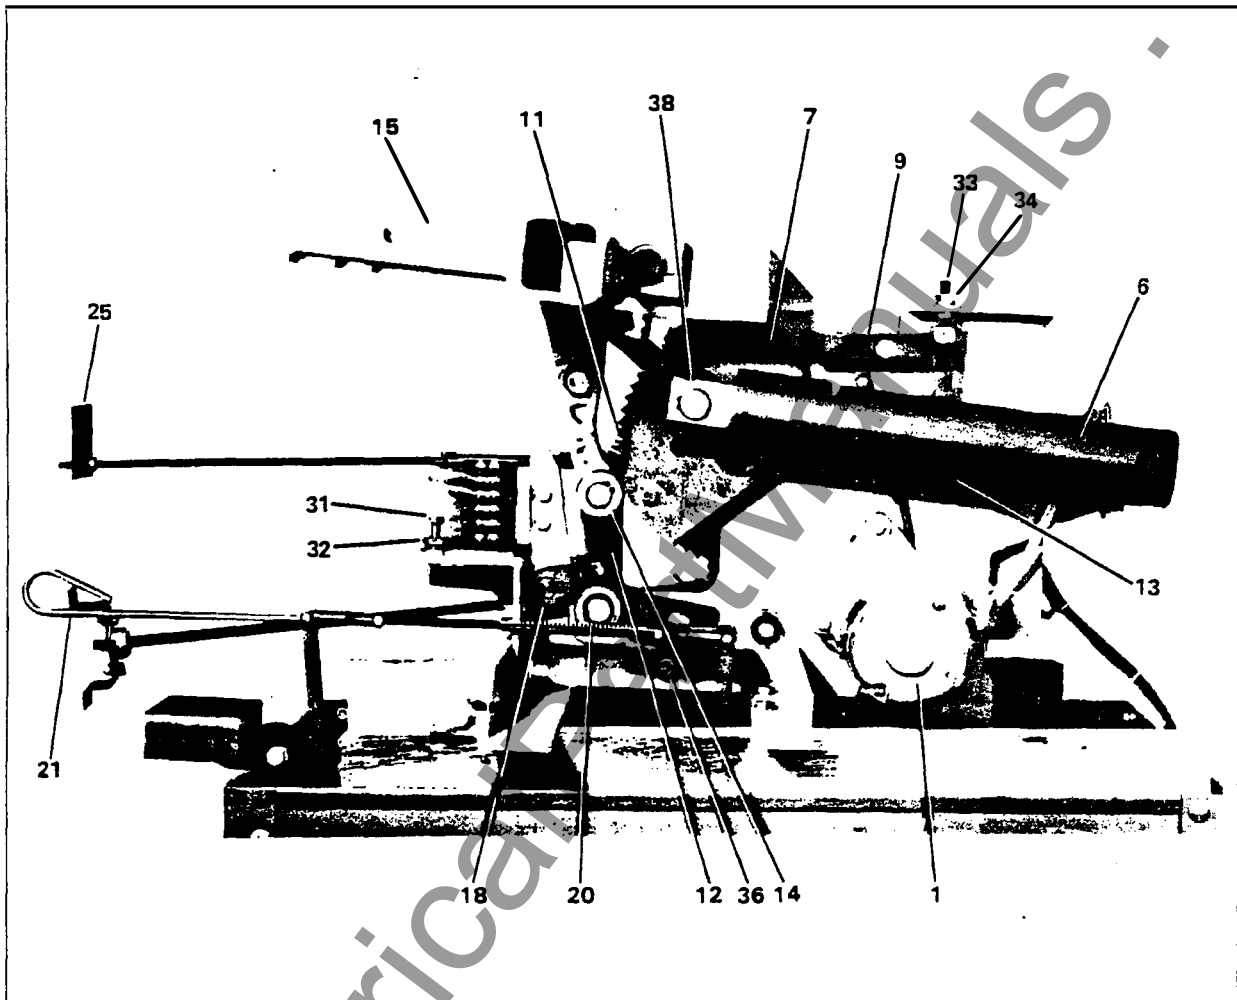

Figure 7. 515-3 Operator R.H. View
The breaker is closed by the stored energy operator straightening a toggle in the four-bar linkage (Figure 7, Item 12). The operator is powered by precharged springs (stored energy).
**Closing Breaker** — When the springs of a stored energy operated breaker are fully charged, it can be closed by pulling the manual close pull rod (21, Figure 7), or electrically by energizing the closing circuit. This rotates the latch that allows the springs to close the breaker.
Energization of the Breaker Control Circuit will cause the spring charging motor (1, Figure 7) to start charging the closing springs (6, Figure 3). The spring charging motor (1) will drive the driving pawl (2, Figure 3) through an eccentric drive shaft (3, Figure 3). The driving pawl (2) will turn the ratchet wheel (4, Figure 3) counterclockwise one tooth at a time. The holding pawl (5, Figure 3) will hold the ratchet in position between driving strokes of driving pawl (2). This charging operation will continue turning the ratchet wheel (4) counterclockwise a tooth at a time until the closing springs (6) are fully charged (dead center). The motor will drive the ratchet wheel past this dead center position and the closing springs (6) will aid rotation driving the ratchet wheel and cams counterclockwise until spring release rollers (8, Figure 8) on the inside surfaces of cams (7, Figure 7) engage the close latch (9, Figure 7). This arrests the motion of the ratchet wheel (4) and the cams (7) and holds the operator in a fully charged position. As the cams and ratchet wheel go over center, the motor cutoff switch (10, Figure 3) is actuated to de-energize the spring charging motor (1). The spring charging motor then coasts to a stop, driving pawl (2) oscillating freely in the smooth toothless section of the ratchet wheel.
As energy is stored in the closing springs, the four bar linkage (12, Figure 7) will be positioned by the linkage reset spring (11, Figure 7) which acts to cause cam follower rollers (14, Figure 7) to follow the surface of cam (7, Figure 7) until the links are in a reset position, and allow-
ing latch rollers (20, Figure 7) to be positioned in front of trip latch (18, Figure 7).
Energizing the spring release solenoid (13, Figure 7) will drive the close latch (9, Figure 7) away from the spring release rollers (8, Figure 8) on the cams (7, Figure 7) releasing the stored energy in the closing springs (6, Figure 7). The closing springs (6) will drive the ratchet wheel (4, Figure 3) and the cams (7, Figure 7) counter-clockwise at a high rate of speed. The cams (7) will engage the cam follower rollers (14, Figure 7) of the four bar linkage (12, Figure 7) and drive them forward causing the four bar linkage to become straight. As the four bar linkage (12)
becomes straight, it drives the radius arm (15, Figure 7) upward causing the breaker contacts to close and the opening springs to be charged. The cams (7) drive the four bar linkage (12) over toggle and against the frame thereby latching the breaker contacts in the closed position.
When the closing cycle has been initiated and the cams (7, Figure 7) begin to turn, the motor cutoff switch (10, Figure 3) resets itself. A "b" auxiliary switch of the breaker opens de-energizing the closing solenoid (13, Figure 7). The close latch (9, Figure 7) returns to its reset position and the close latch check switch (16, Figure 3) closes and energizes the spring charging motor (1). The closing springs (6) are then recharged as described earlier.
Energizing the trip solenoid (17, Figure 3) will drive the trip latch (18, Figure 3) away from latch roller (20, Figure 3) on the four bar linkage (12, Figure 3). This allows the four bar linkage to collapse and the breaker contacts will open. If the closing springs (6) are in the charged position, the linkage reset spring (11, Figure 7) will immediately reset the four bar linkage (12). If the closing springs (6) are not charged, the linkage reset spring (11) will not reset the four bar linkage (12) until just before the closing springs (6) are completely charged.